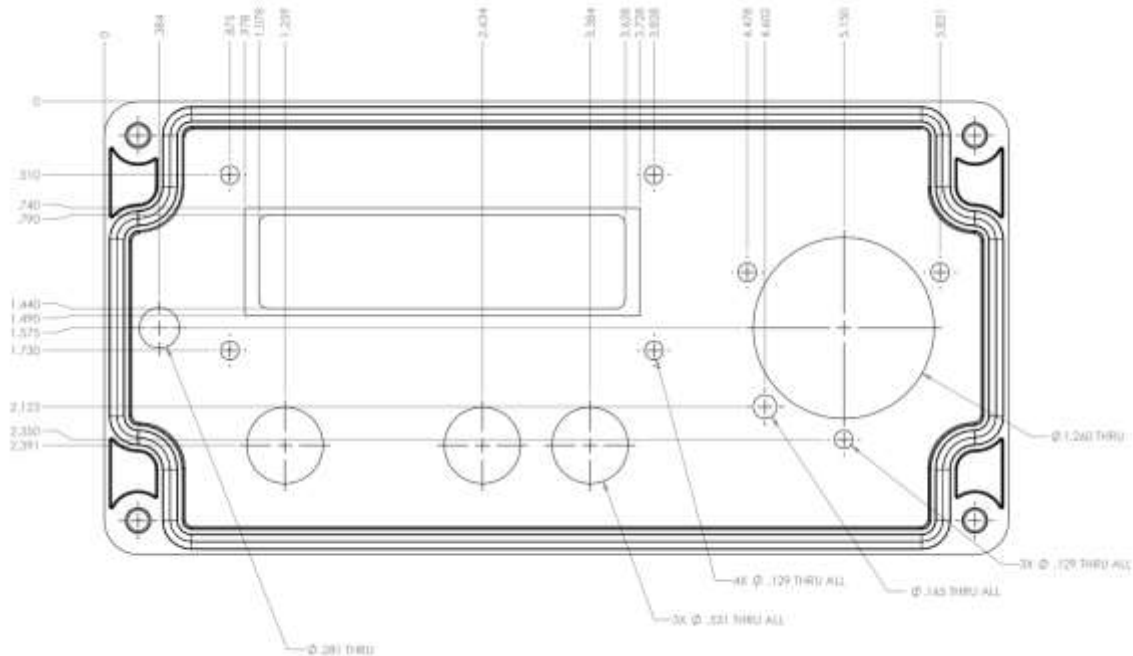

Figure 2. Modifications to the Commercial Enclosure
1. Machine the lid of the plastic case (Rose Enclosures, 090816060), following the drawing provided in the Mechanical folder and in Figure 2.